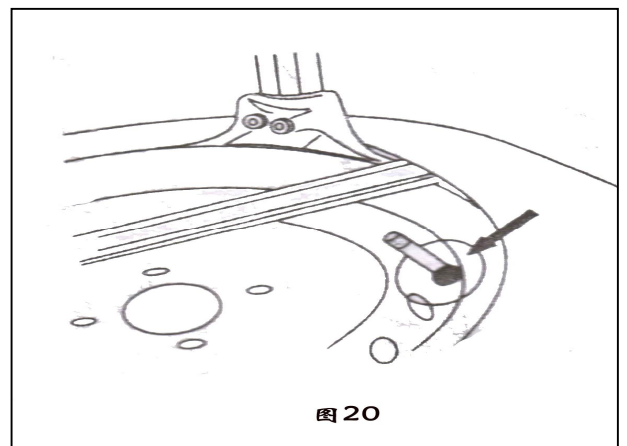

图20
4.1.4 Use the crowbar to detach until the lip to the hump of the demount tool (FIG20). Step the turntable rotation pedal (FIG2-11) to rotate the turntable clockwise until the entire lip completely detached. If handling the tube tire, to avoid the damage on the tube, you should keep the nozzle of the tire 10cm from the right side of the demount tool when demounting.